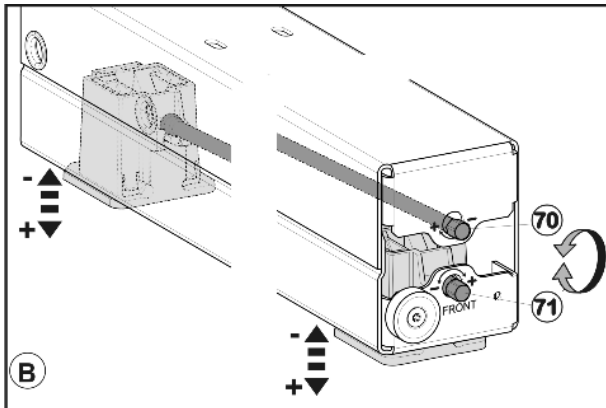

Fig. 64
- ▶ Align the height of both appliances evenly using the four roller bases. Use upper adjustment setting (1/4") Fig. 64 (70) for the rear adjustable foot and lower adjustment setting (1/4") Fig. 64 (71) for the front adjustable foot respectively. Turn clockwise to raise and counterclockwise to lower. Maximum adjustable height: 5/8 in (16 mm).